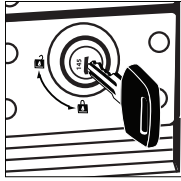

Figure 2
2. Insert key into lock cylinder (Figure 2).